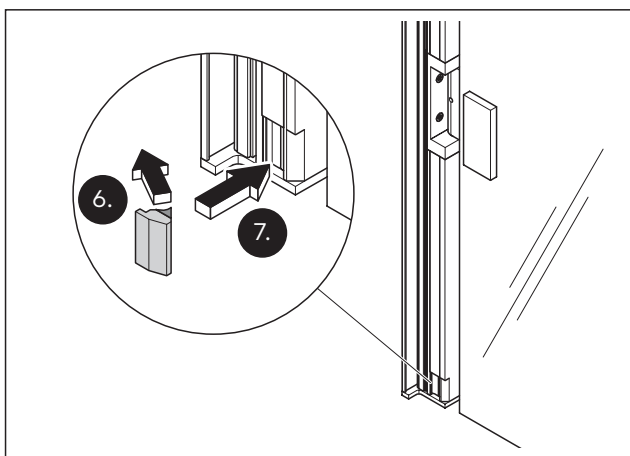

Fig. 11 Remove the protective film and press the trigger
6. If a trigger is not yet mounted, then completely remove the protective film from the adhesive strip on the trigger (Fig. 11).